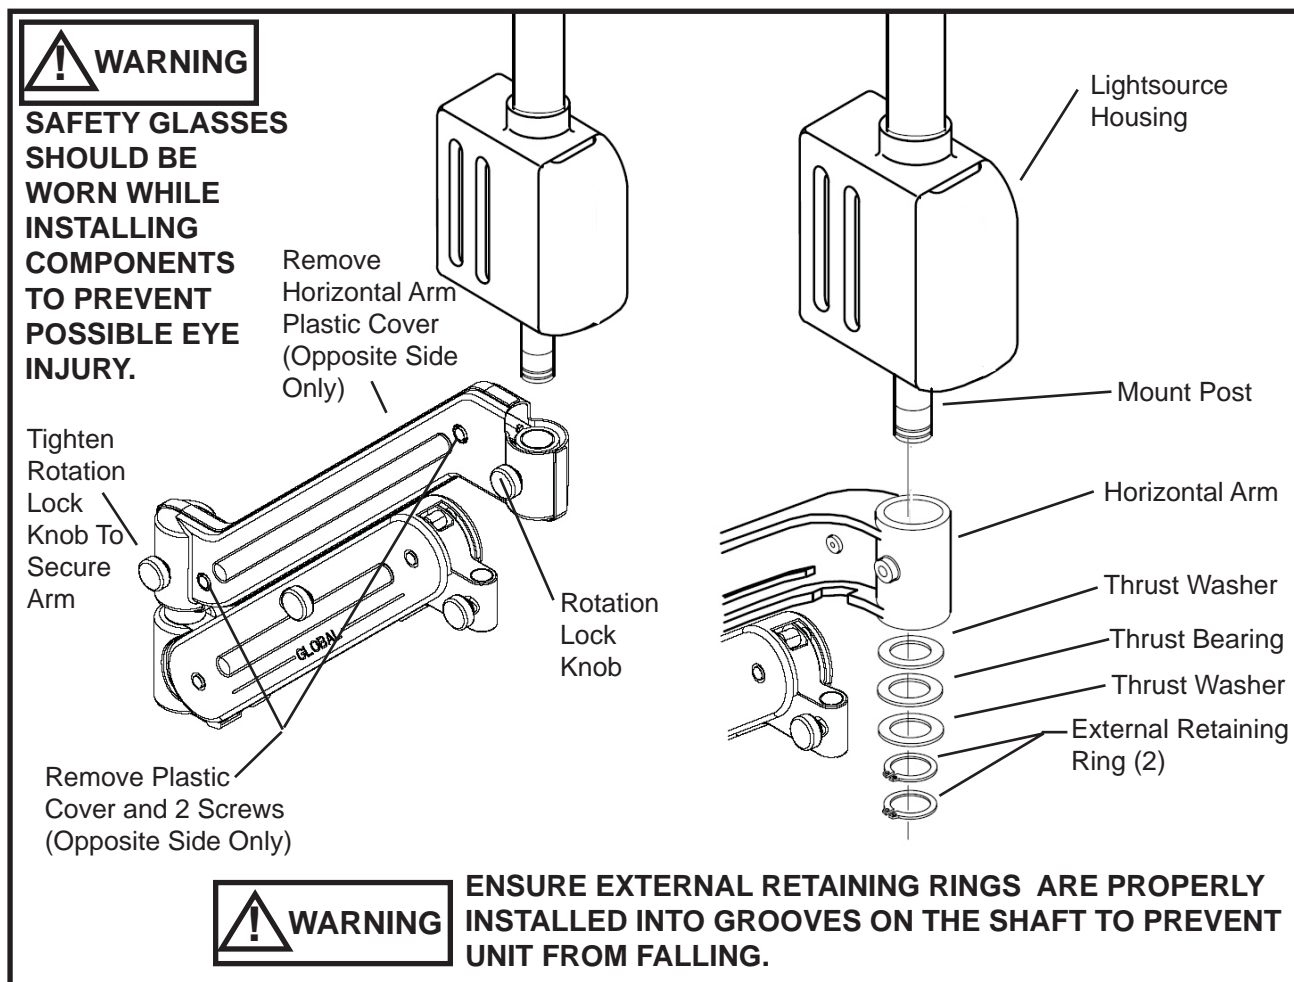

Figure 5-4. Installation of Horizontal Arm/Spring Arm Assembly on Ceiling Mount and High Wallmount
To install the Horizontal and Spring Arm Assembly to the Lightsource Housing, refer to Figure 5-4 and proceed as follows:
6. Install a thrust washer, followed by a thrust bearing, and then another thrust washer onto the Mount Post. See Figure 5-4.